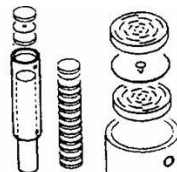

fig. 22
- Hold the Whipping Pipe in vertical position (the side with the gasket on top) and insert the Pushing Rod from the bottom. Insert a Whipping Disc, add an Intermediate Disc (cone down). Alternating, add the remaining Whipping Discs (13 pcs.) and Intermediate Discs (12 pcs.), resp. insert the entire Whipping Column. (fig. 22)